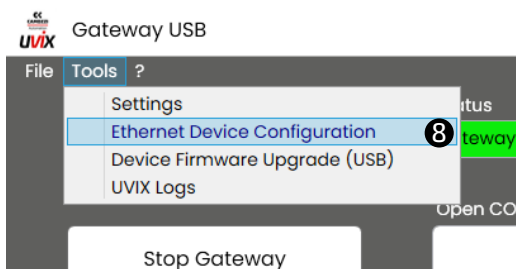

Figure 8.25: Ethernet device configuration section.
The USB Gateway also allows to connect to the DRVI using Ethernet instead USB ⑧ (see Figure 8.25).